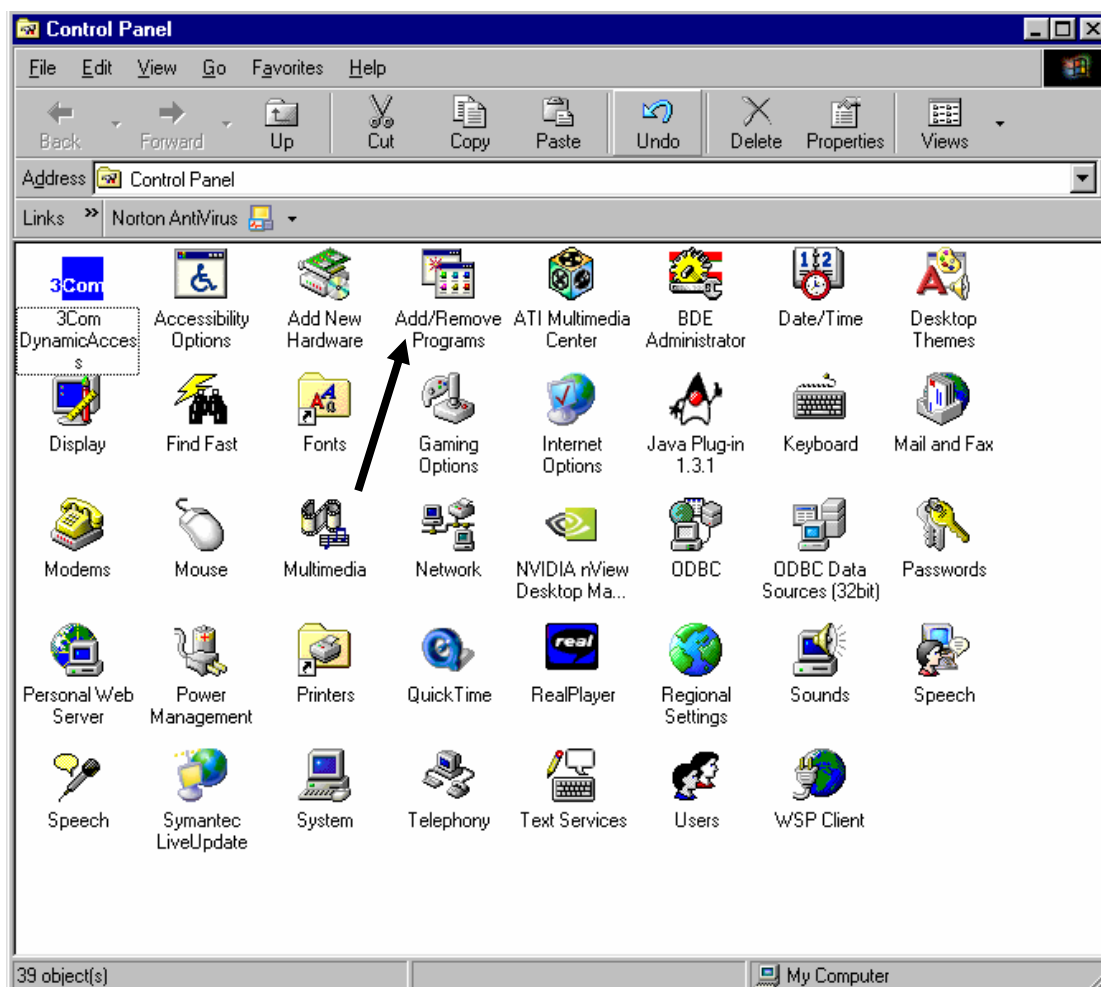

Figure 33
3. Double-click the **Add/Remove Programs** icon (Figure 33).